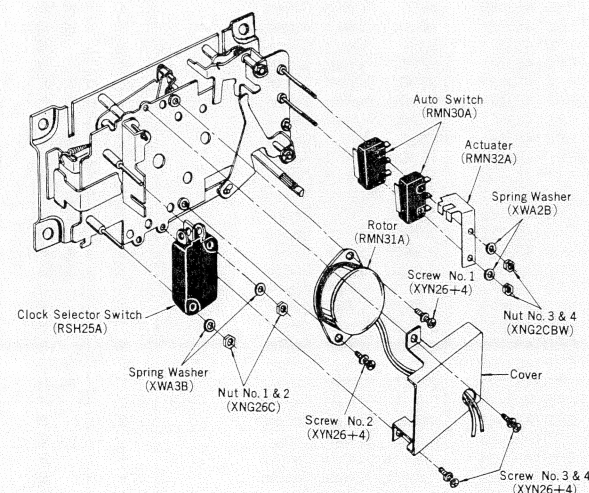

Fig. 17
3. Remove the clock selector switch, attaching nuts 1 and 2, as shown in fig. 17.
4. Remove the spring washer and clock selector switch, as shown in fig. 17.
2. Remove the rotor cover attaching screws, 3 and 4, as shown in fig. 17.
3. Remove the rotor attaching screws, 1 and 2, as shown in fig. 17.
4. Remove the rotor, as shown in fig. 17.
1. Remove the auto switch attaching nuts, 3 and 4, as shown in fig. 17.